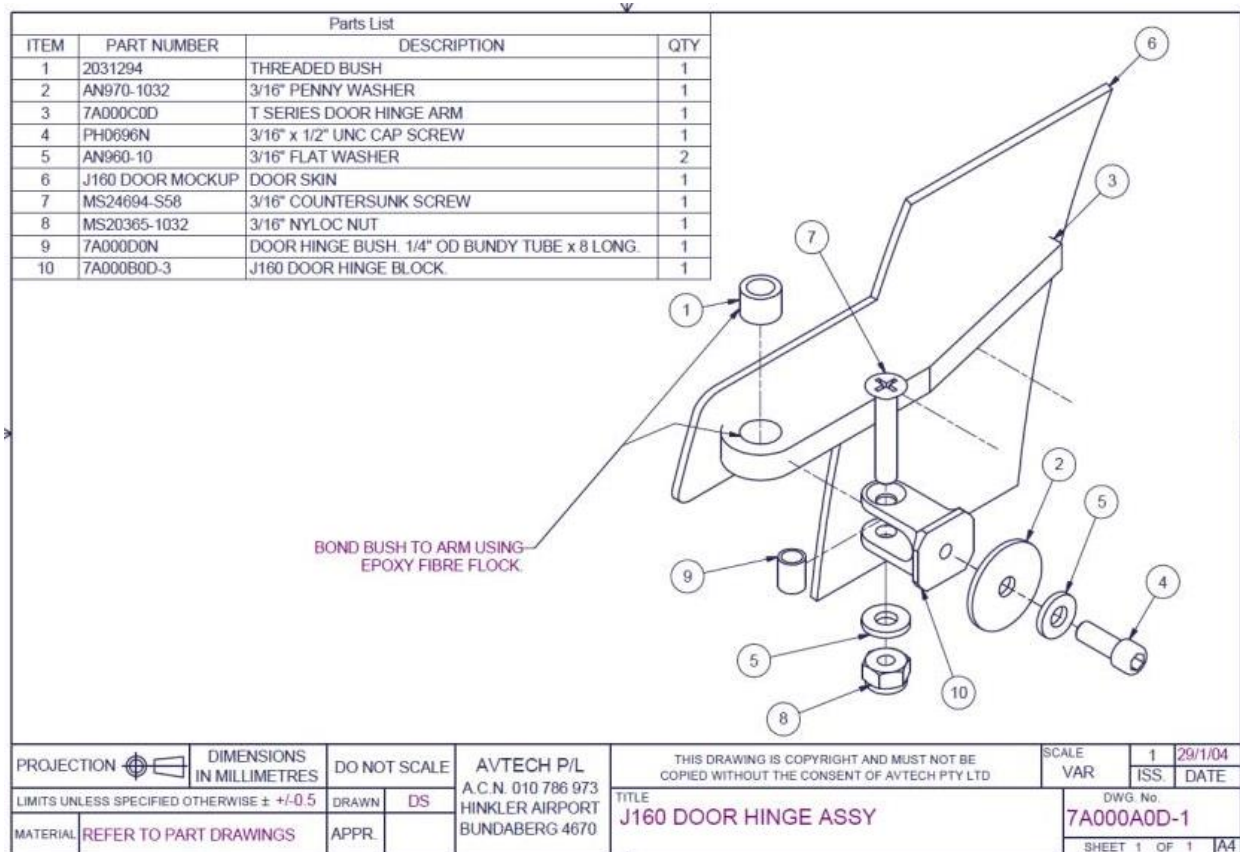

Figure 45 – J160-Type Door Hinge Assy (all J-Series, n/a J200/J400)
- J160-Type cabin doors are those which use the door hinge assembly shown in Figure 45 and the latch shown in Figure 50. While early J200-family aircraft used a different hinge, later variants are equipped with "J160-Type" doors.
- Removal of doors is achieved by removing the hinge bolts or removing the machined screws that attach the hinges to the door frame. Refer to Figure 45 below.